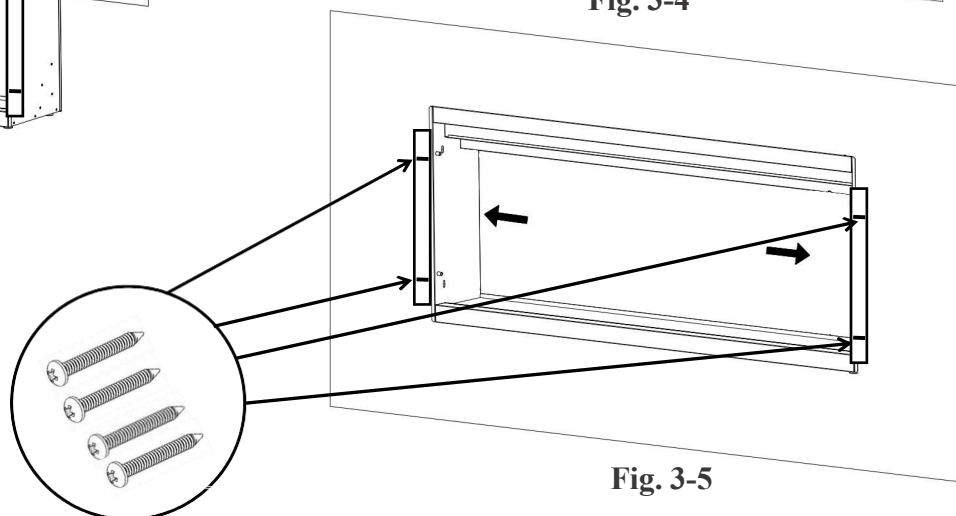

Fig. 3-5
- F. **(Optional)** Secure the fireplace by installing four (4) wood screws through the mounting holes on the front. (Fig. 3-5)